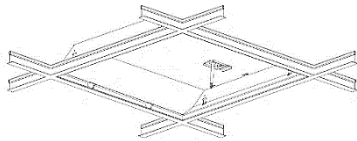

Figure 1
1. Prior to installation, disconnect all incoming power to the fixture. Remove existing hardware from inside the troffer (lens/lens frame, reflectors/ballast covers brackets, lamps/lamp holders). Leave the supply wires and grounding leads. (Fig. 1) NOTE: Follow all federal and local regulations when disposing of lamps and components.